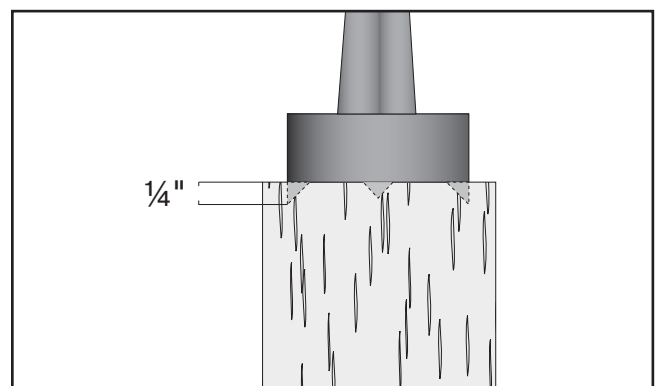

Figure 47. Spur center properly embedded.
6. Drive spur center into end center mark of workpiece with a wood mallet to embed it at least $\frac{1}{4}$ " into workpiece, as shown in **Figure 47**.